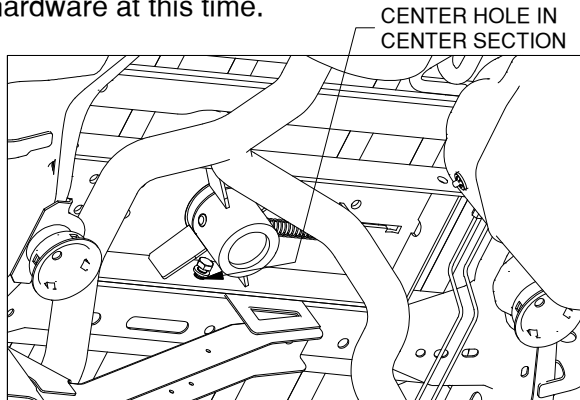

Figure C5: View looking up under truck bed from in front of the axle toward the rear of the truck. (Axle not shown)
5. **Attach the rear cross member.** Slide the rear cross member forward until it contacts the center section. Line the holes in the rear cross member up with the slots in the center. A pry bar or screwdriver may be used to help position the cross member. Thread a 1/2" x 1-1/2" long bolt into the center rear hole in the center section into the center threaded hole in the rear cross member, adding a lock washer to the connection, as shown in Figure C5. Hand tighten hardware at this time.